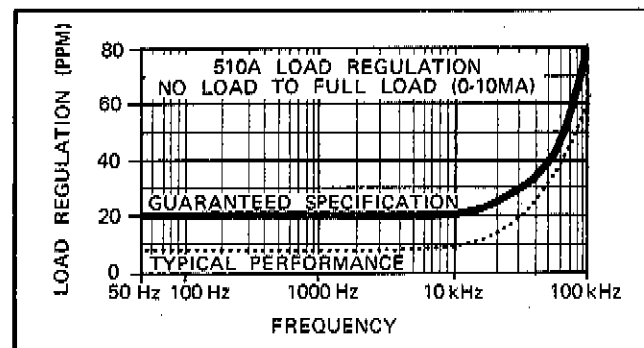

Figure 4-3. LOAD REGULATION
4-25. This check provides a means of verifying the line and load regulation performance. Line voltage changes should not cause output variations greater than 10 ppm under full load. No load to full load changes should not cause output variations greater than those given in Figure 4-3. The following test equipment is required to perform these checks:
- g. Reconnect the 1k load to the OUTPUT terminals, observing that the output voltage does not change more than the limit specified in Figure 4-3.